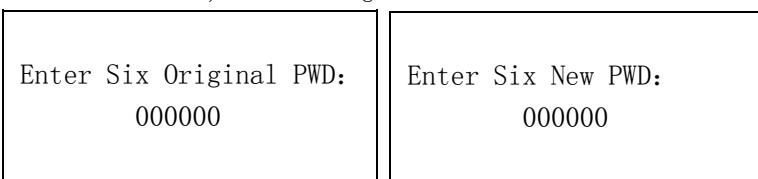

Fig3-13
9. Enter the password modification interface in the main menu , can set a password to prevent users from operating the parameter by mistake. if want to change the password, you need to enter the original password. The factory password is 000000. The modified password must be 6 digits and Repeated input twice is effective, shown as Figure 3-13、3-14、3-15、3-16.